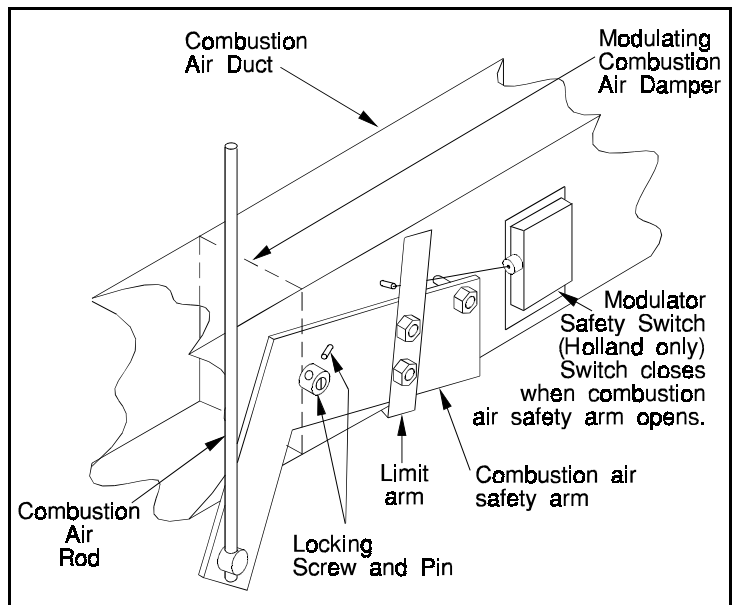

FIGURE 10 (MSSM0112BE)
2. Remove the Combustion Air Safety arm locking screw and pin (FIGURE 10). With the limit arm held against the bottom of the combustion air duct, rotate the Modulating Combustion Air damper shaft until the desired pressure is on the manometer. Tighten locking screw (re-drill hole to insert pin if necessary).
After setting burner minimum fire, it is necessary to adjust the Combustion Air rod (G) length. Loosen the Combustion Air rod clamps. Set the Limit arm (FIGURE 10), against the underside of the Combustion Air duct, then tighten clamps.